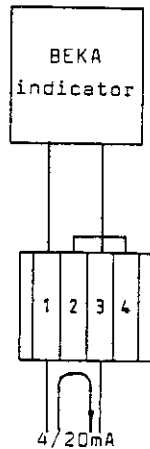

Fig 9 Terminal connections
- iii Connect the loop wiring to the terminal block as shown in Fig 9. To ease installation the rear terminal block can be removed from the instrument by gently pulling.